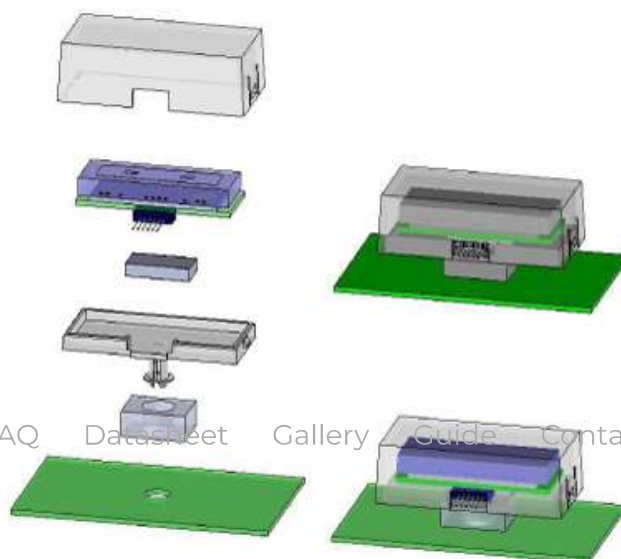

Fig.2
2.Prevent any vibration from the air (Fig.2)